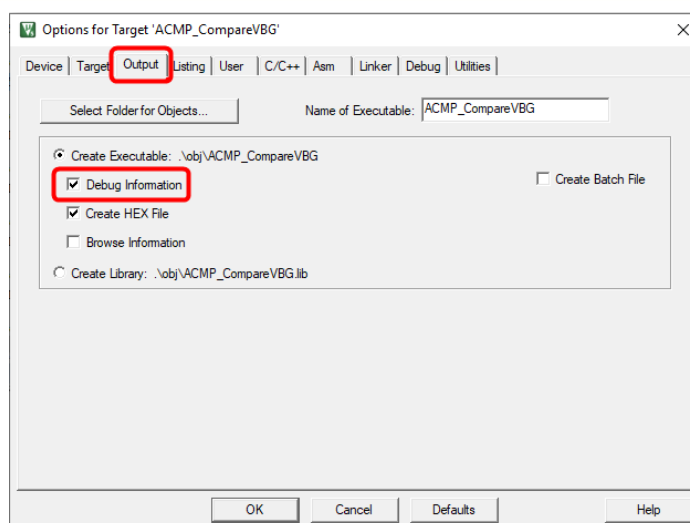

Figure 5.2-11 Enable Debug Information for Keil MDK
(2) Invoke **Project** → **Options for Target** → **Output**, and enable the **Debug Information** option, as shown in Figure 5.2-11.